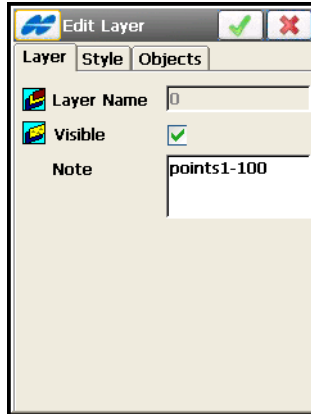

Figure 6-23. Edit Layer
7. To edit a layer, either double-tap the layer or select it on the *Layers* screen and tap **Edit**. On the *Edit Layer* screen (Figure 6-23 on page 6-18), change the layer's parameters as needed and tap the ok button.
- On the *Layer* tab, enter a new layer name, check and enable the *Visible* box to show the layer on the map, and enter any additional information in the *Note* field (Figure 6-23).